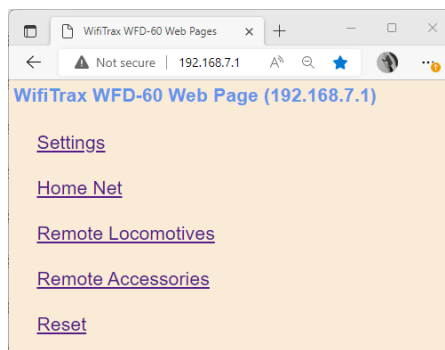

Figure 26 The Main Menu of the WFD-60
- (4) Now you are ready to start working on your WFD-60. On your computer, tablet or phone connect to its Wi-Fi Access Point, wftrx_WFD60_1_XXXXXXX_7, where XXXXXXXX is its serial number.
- (5) Open a browser and type 192.168.7.1 into the URL textbox, then hit enter. This should display the main menu as in Figure 26.